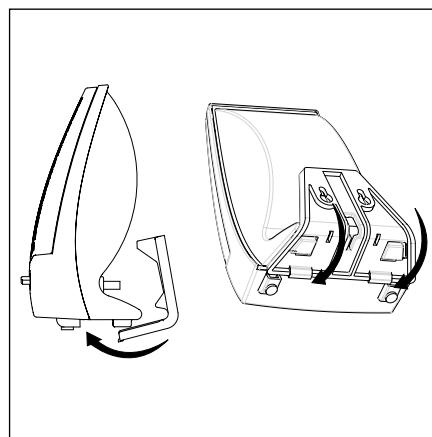

Figure 9
- For Satellite speakers: Hold the bracket for the speaker you are planning to wall mount up to your chosen location (before you snap it onto the speaker). For Center Channel Speaker: use the mounting template (included). Be sure to orient it so that the small ends of the keyhole slots are facing "up" according to the direction of installation. Using the keyhole slots in the bracket as a template, mark the installation location of the keyhole slots with a pencil [figure 9].